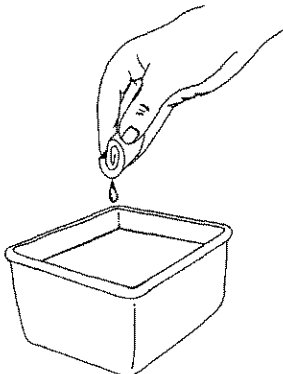

Fig. 26
4. Wash the filter in detergent and water (Fig. 26). Rinse the filter thoroughly and allow it to dry.